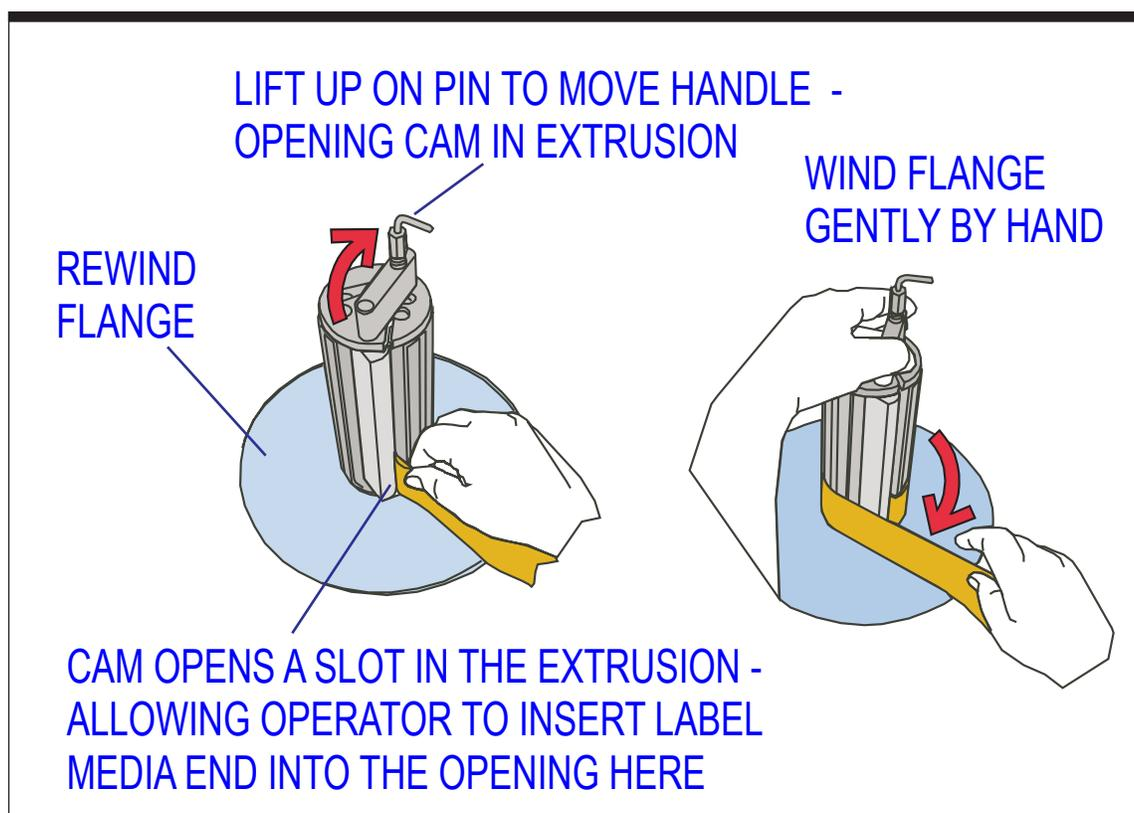

Figure 4-4. Rewind Assembly - Threading
- Step 7. Open the Cam on the Rewind Assembly.** Open the cam (refer to Figure 4-4) on the extrusion shaft of the rewind assembly. Insert a portion of the end of the label into the cam, and rotate the wheel to wrap up excess label stock. The label stock (media) should be riding evenly on the rollers and the tension should be fairly secure, but not too tight.